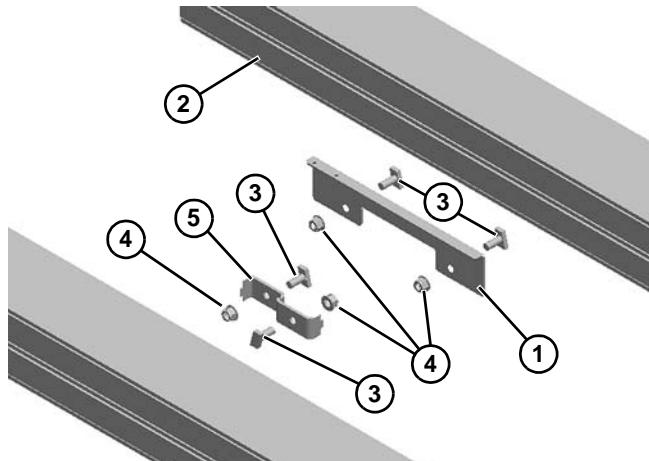

Figure 49
1. Install conveyor tie plate (**Figure 49, item 1**) to conveyor section (**Figure 49, item 2**) with two M8 x 20 mm studs (**Figure 49, item 3**) and hex nuts (**Figure 49, item 4**).
2. Install frame connecting clip (**Figure 49, item 5**) to conveyor sections with two M8 x 20 mm studs (**Figure 49, item 3**) and hex nuts (**Figure 49, item 4**).
3. Tighten hex nuts (**Figure 49, item 4**).